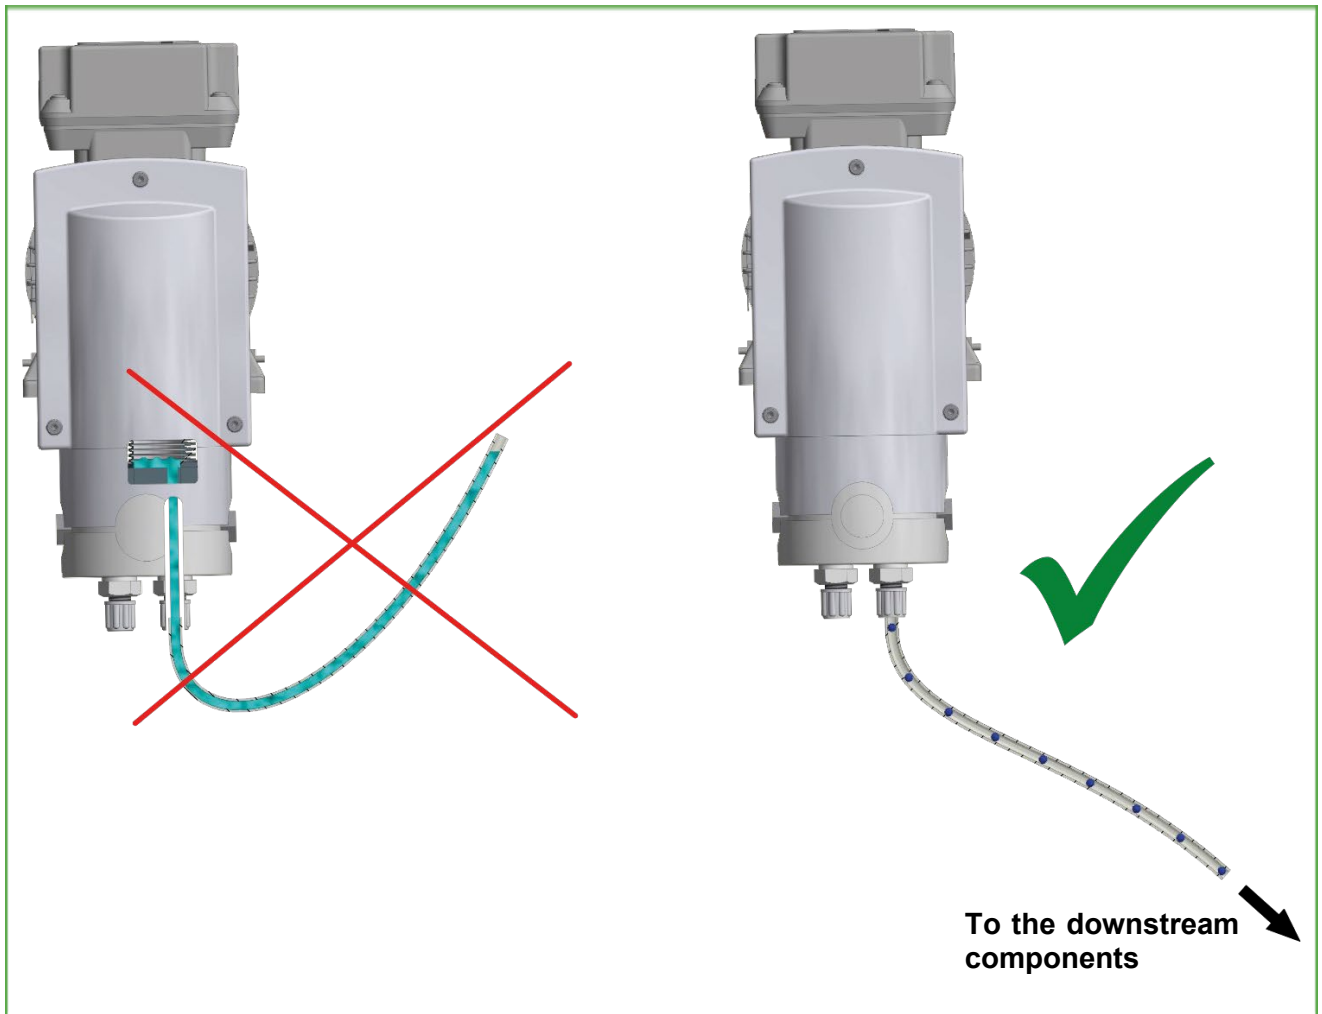

Figure 7 Pump head facing down: install outlet tubing with a downward slope
- Mount the pump at the highest point in the system. If this is not possible, route the outlet tubing away from the pump at an incline (see Figure 7).